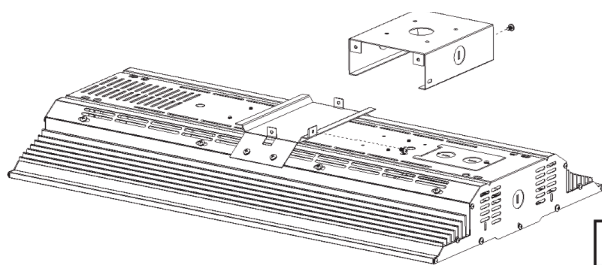

Fig. 4
Slide the assembled fixture onto the surface mounted top mounting bracket. Secure the fixture to the bracket using the two (2) screws shown in **Fig. 4**. Wire the input wires to the fixture.